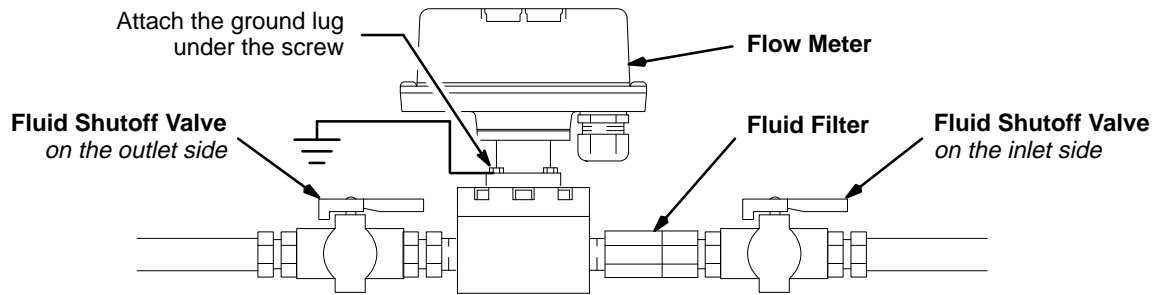

Fig. 2
- Refer to Fig. 2 and 3 to locate and install the flow meter, filter, bypass line, and fluid shutoff valves.